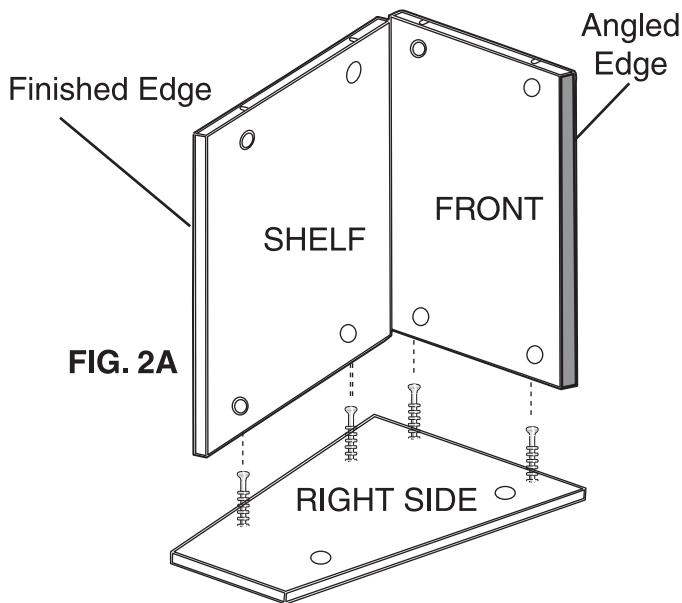

FIG. 2A
Lay RIGHT SIDE on a flat surface, protecting surface from scratches. NOTE: ALL CAMS face inside at this step except for shelf. Align and attach (1) SHELF with finished edge facing out. Tighten CAMS. Attach FRONT with ANGLED EDGE facing out as shown FIG. 2A. Tighten CAMS
Align and attach LEFT SIDE to SHELF and FRONT as shown FIG. 2A. Tighten CAMS